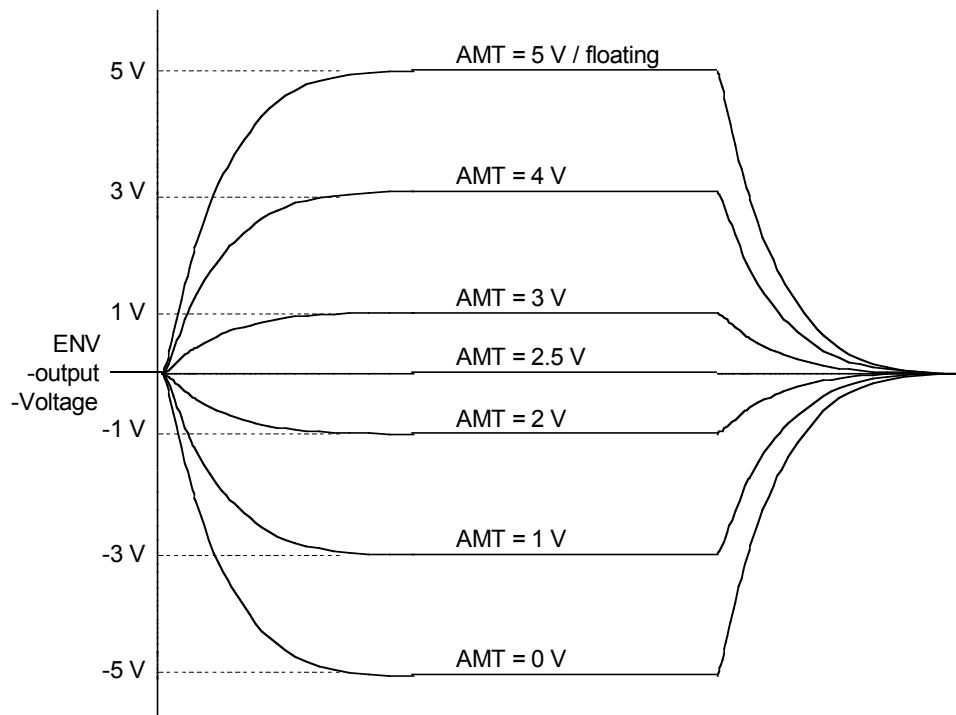
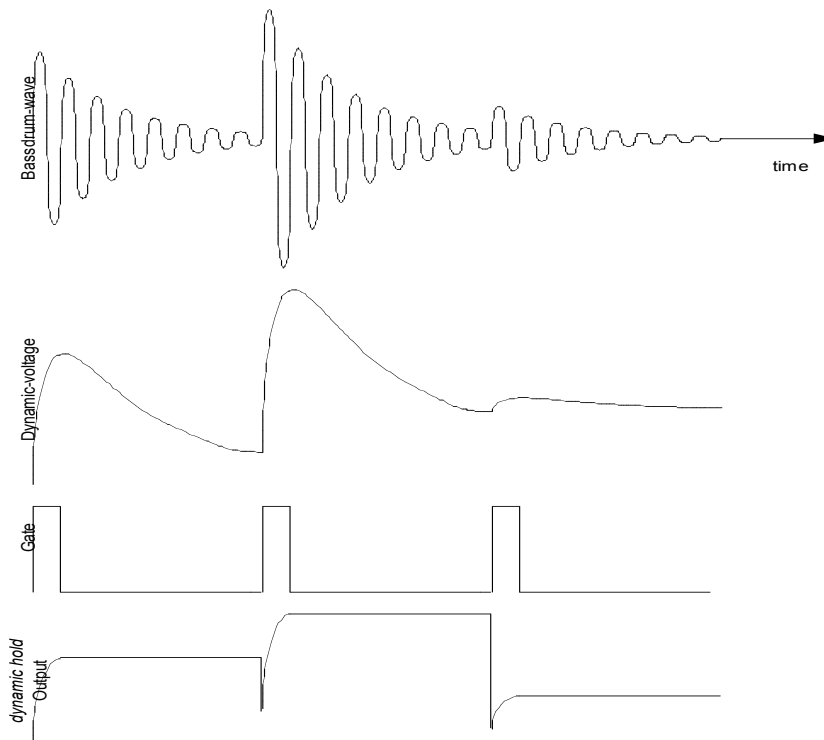

Fig.9.5.6 Bipolar envelope modulation with the "AMT"-input of the multiplier
Fig. 9.5.7 The dynamic hold-function
Both envelope signals can be accessed at the rearpanel socket **"ENV OUT" (20)**. They are provided bipolar (in positive and negative directions) as shown in fig. 9.5.6. The final level of the envelope can be shifted in both directions - positive up, negative down. As shown in fig. 9.5.6, zero Volts at the multiplication input results in an inverted envelope with -5 Volts as maximum value.
The upper graph in fig. 9.5.7 corresponds to the waveform of an e.g. kickdrum. The graph below shows the resulting voltage curve, derived from the **dynamic**-module (see. chapter 9.1.). When a gate-pulse at the start of every kickdrum (3. graph) is sent to the trigger input of the envelope generator, each "kick" opens the gate of the *dynamic hold*-function. This is explained in the lower graph.
The effect of the **dynamic hold outputs** (see. also fig. 9.5.7, down) on the envelope (see. chapter 9.5.3) is equal to the "**AMT1/2**"-input, according to the graphs in fig. 9.5.5 and fig. 9.5.6. To determine explicit voltage levels, see the values at the sockets „**DYN OUT**“ (**7**)/**RING** (s. chapter 9.1)
TIP and **RING** of socket **(20)** provide the envelopes voltages **ENV 1** resp. **ENV 2** bipolar as explained in fig. 9.5.6.